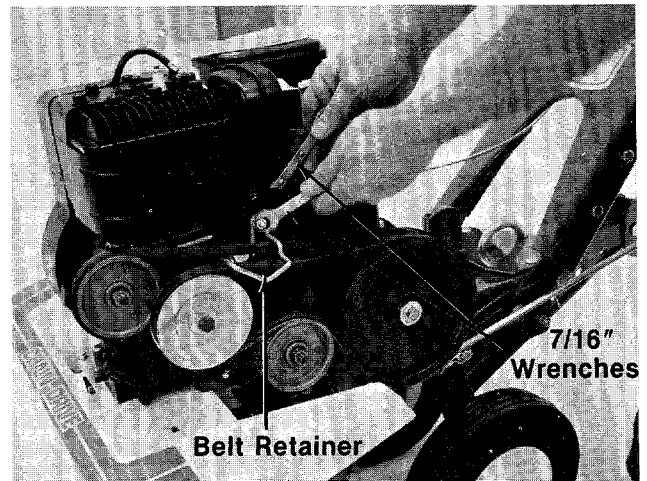

FIGURE 21.
3. Loosen (do not remove) the hex screw and nut holding the belt retainer, using two 7/16" wrenches. See figure 21.